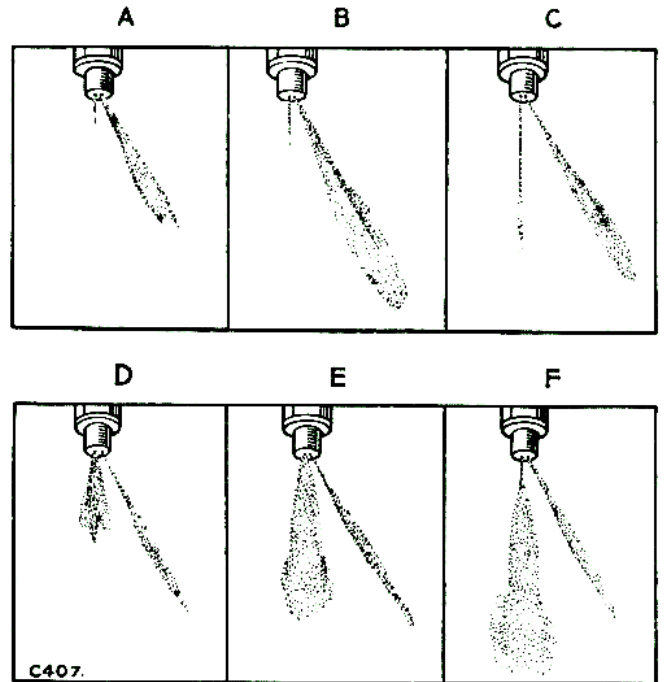

Fig. M-43—Injection nozzle spray form development —starting to running conditions
4. Whilst the starter turns the engine over, observe the manner in which fuel issues from the nozzle and compare the spray form with section "A" of Fig. M-43.
- (d) Spray form must compare favourably with the illustration Fig. M-43.
The auxiliary spray form may be tested at 60 strokes per minute and the main spray at 140. Spray development from starting to running speeds is illustrated in Fig. M-43; this illustration should be referred to and compared with the spray form of nozzles under test.